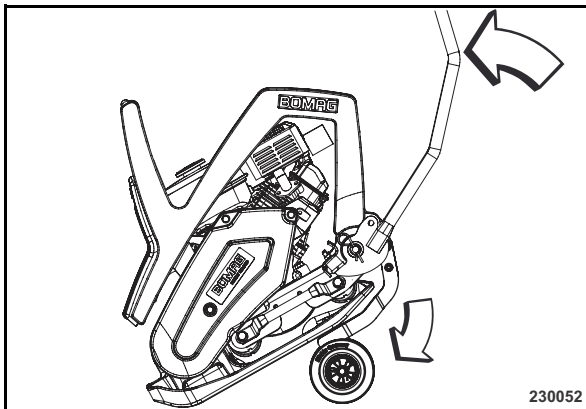

Fig. 37
- Push the vibratory plate up by the guide handle (Fig. 37) and fold the transport wheels under the base plate.